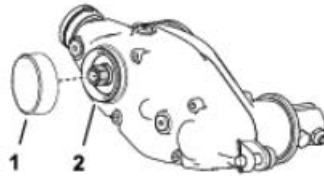

Figure 4
137-0812	High deflection output shaft seal. (Figure 4 Item 2)
1. Apply medium-strength cylindrical bonding retaining compound (such as Green Loctite 609®) around the snap ring groove and the inside diameter surface of the cap. (Figure 4)
2. Install the cap as shown in Figure 4